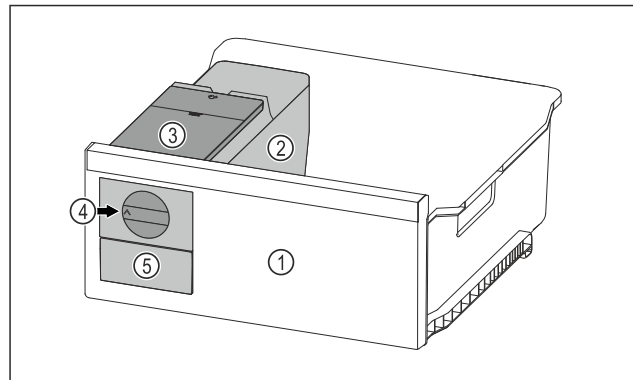

Fig. 69 Example illustration
- ▶ Turn the rotary knob Fig. 69 (4) clockwise as far as it will go.
- ▶ Ice cubes fall from the ice cube tray into the ice cube drawer Fig. 69 (5).